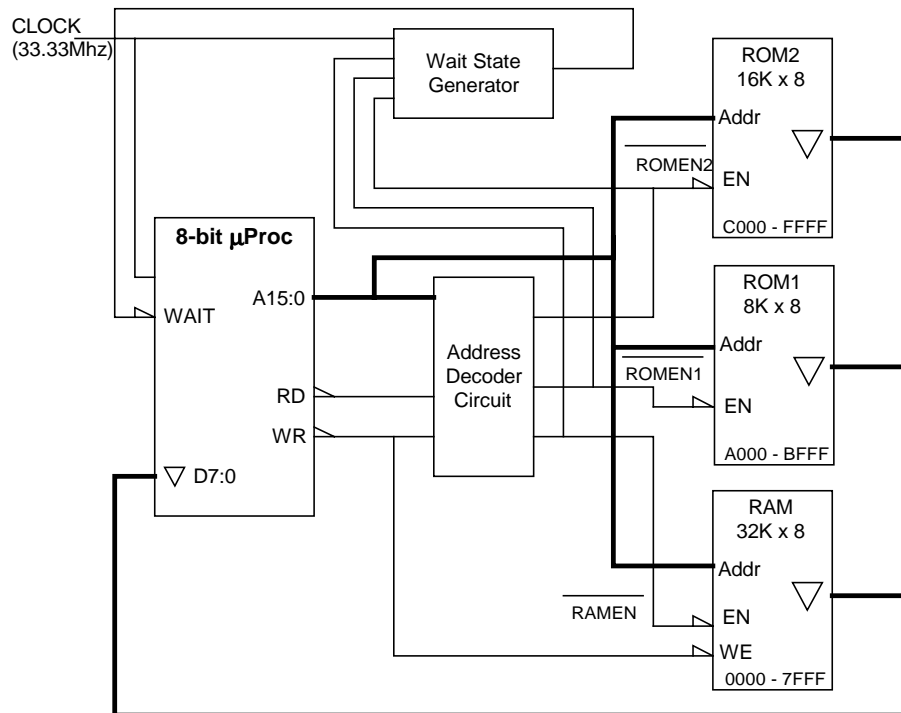

Figure 4
5. *Figure 4* shows the memory interface circuit for an 8-bit microprocessor system with a 16-bit address bus and is controlled by a symmetrical clock running at 33.33 MHz. The system has three memory components with the following address ranges and chip-enable/address to data access times: